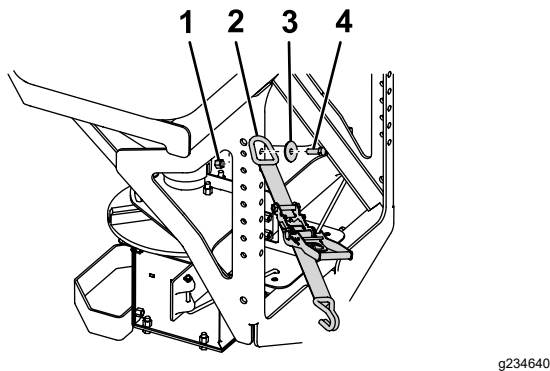

Figure 5
1. Attach the D-ring end of the ratchet straps to the upper holes on the outside of the spreader frame using a bolt (1/2 inch), washer (1/2 inch), and locknut (1/2 inch) and torque the bolts to 76 Nm (56 ft-lb) as shown in Figure 5.